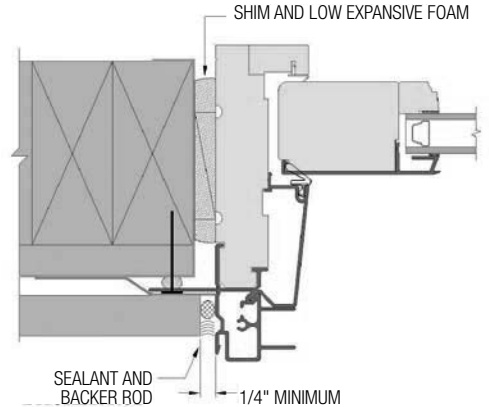

FIG. 23: SIDE JAMB
- A) After siding or wall exterior is complete, apply backer rod and sealant between the door frame and siding material on both sides. Sealant bead must extend to back of accessory groove (3/8" Min.) (Fig. 23, 24 & 25)